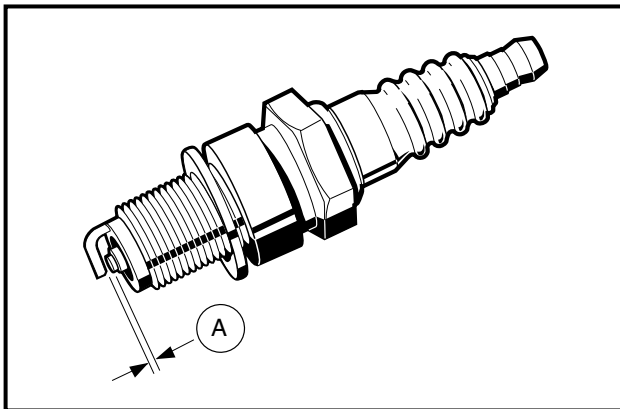

Figure 13-5 Spark Plug
Examine the plug (**Figure 13-5, Page 13-7**). The deposits on the plug base and electrode are an indication of the correct heat range and efficiency as well as a guide to the general condition of the engine, fuel and air mixture and ignition system. If all of the above conditions are proper, the spark plug should be a light brown color. There should be no bridging between the electrode and base. The electrode should not be eroded. Black color, excessive carbon, and/or a wet plug indicate a too rich condition. White, burned or melted electrodes indicate a too lean condition or pre-ignition. Oily deposits on the plug electrode are an indication of worn rings, valve guides, cylinder wall, etc. Also examine the spark plug wire. Remove rubber boot and inspect internal spring for damage. Inspect spark plug wire for damage and be sure spring coil is securely attached to spark plug. **See following WARNING.**
2. Use a wire type gauge. Bend the outside or ground electrode so only a slight drag on the gauge is felt when passing it between the electrode. Never make an adjustment by bending the center electrode. Set gap (A) to 0.027 - 0.031 inches (0.69 - 0.79 mm) (**Figure 13-5, Page 13-7**).